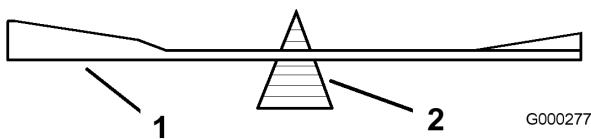
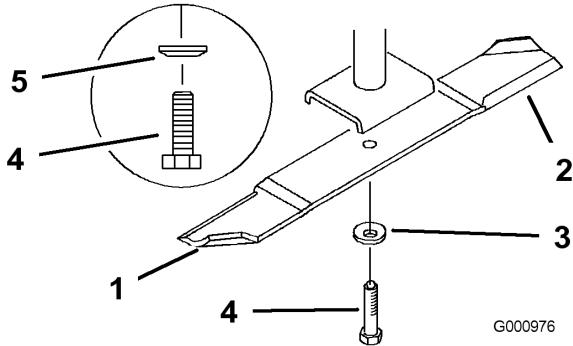

Figure 74
Figure 75
2. Remove the blade bolt, spring disk and blade from the spindle shaft (Figure 75).
2. Check the balance of the blade by putting it on a blade balancer (Figure 74). If the blade stays in a horizontal position, the blade is balanced and can be used. If the blade is not balanced, file some metal off the end of the sail area only (Figure 75). Repeat this procedure until the blade is balanced.
1. Install the blade onto the spindle shaft (Figure 75).
2. Install the spring disk and blade bolt. The spring disk cone must be installed toward the bolt head (Figure 75). Torque the blade bolt to 85-110 ft-lb (115-150 N•m).